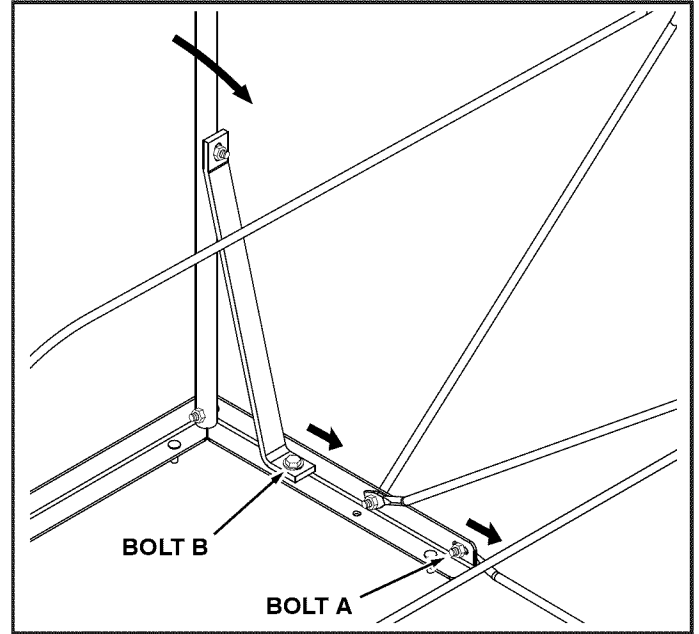

FIGURE 23
- With the rope hanging down loosely, check if the cover fits down freely around the rear of the cart tray. If the cover needs to extend farther to the rear, loosen bolts (a) in figure 23 to slide the support rod rearward.
- If the rear of the cover does not rest down freely around the rear of the cart tray, loosen bolts (b) in figure 23 and tilt the front support tube rearward while sliding the bottom of the braces rearward.